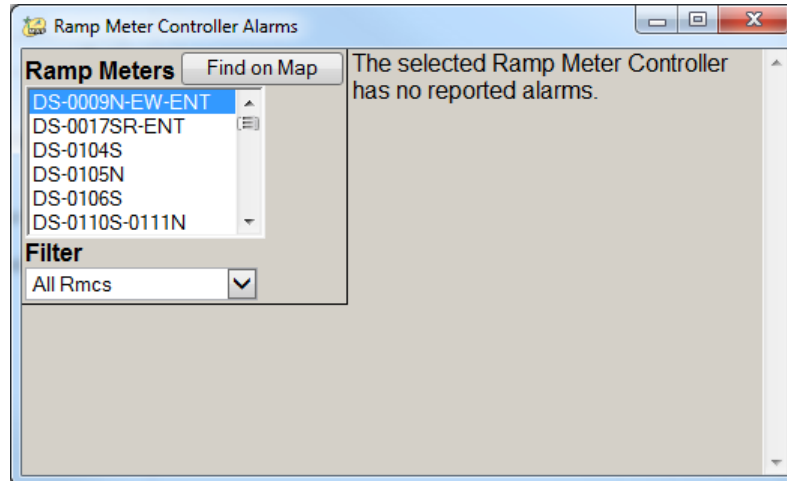

Figure 3-108 – RMC Alarms
- **Alarms:** Selecting this option will display the Alarms dialog shown in Figure 3-108.
- **View Alarms:** Selecting this option will display the Alarms dialog shown in Figure 3-108.